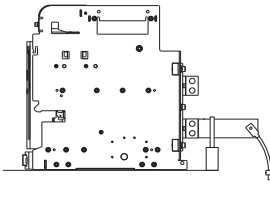

Fig. 1
- The extended terminals must have an insulated support and the cable must be fixed to a solid surface (Fig. 1).